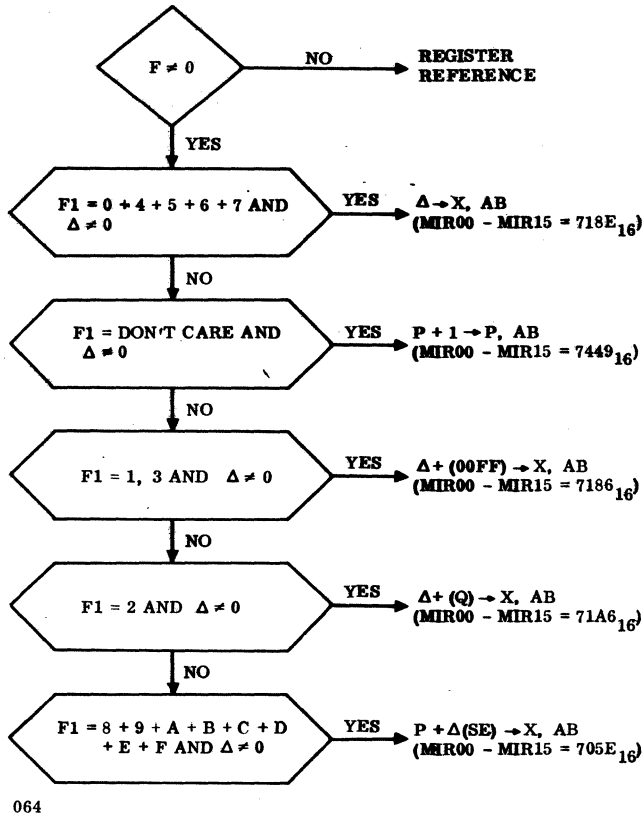
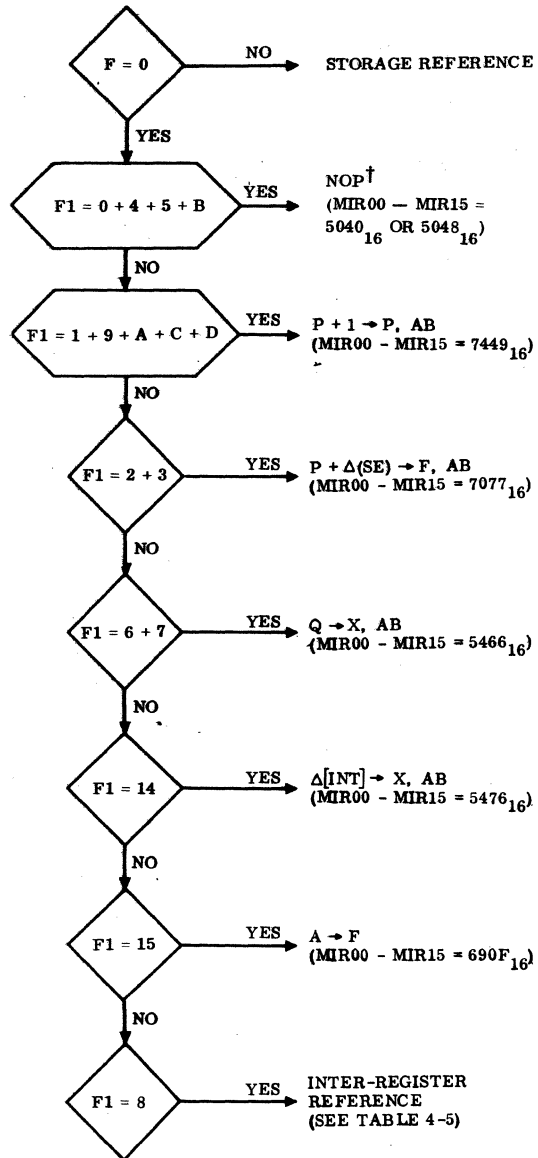

Figure 5-4. MIR Transform of 1700 Storage Reference Instructions
Figure 5-5. MIR Transforms of 1700 Register Reference Instructions
4. Simultaneously with the operations in step 2 and 3, the output of IXT is encoded to form the upper 16 bits (MM00 through MM15) of micro memory. Refer to figure 5-4.
The four 2-to-1 multiplexers E5, E6, G5, and G6, select one of two MIR transforms, either storage reference instruction (F≠0, figure 5-4) or register and inter-register reference instructions (F=0, figure 5-5). These multiplexers are enabled by the MIR transform signal (XT/MIR) that is only generated during GETMAK/XT operations. If a protect violation occurs, the D field of MIR encode is set to 0000 (no operation, NOP). Refer to appendix A for encoding equations applicable to storage, register, and inter-register reference instructions.